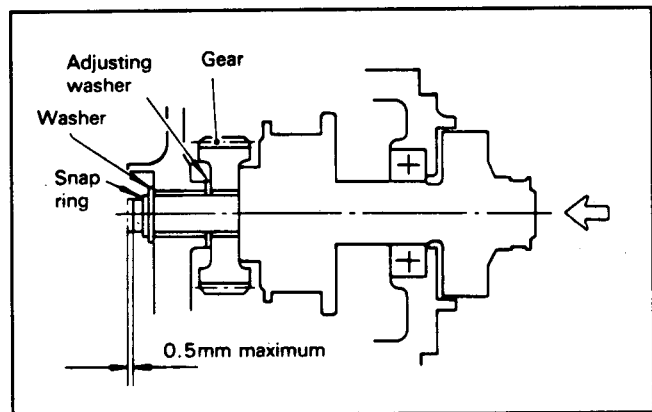

Figure 36
2. Set the pinion shaft end play (thrust gap) to 0.5 mm (0.02 in.) or less by inserting an adjusting washer between the center bracket and reduction gear (Fig. 36).